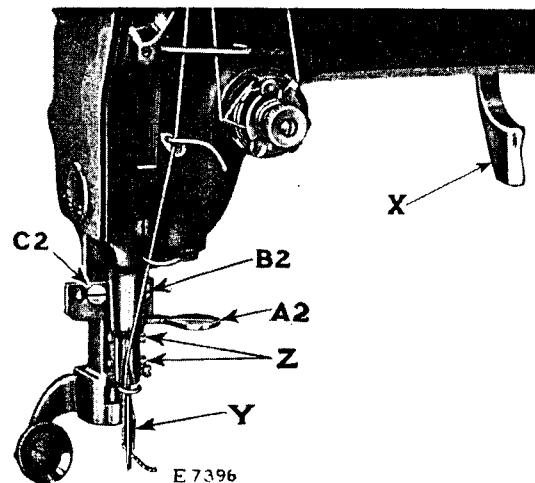

Fig. 22. Adjustments on the Trimmer of
The knife (Y, Fig. 22) should be set so that its cutting edge presses against and just passes below the cutting edge of the throat plate cutting bar to ensure making a shear cut. Care should be taken to keep the knife sharp.
The sidewise adjustment of the knife is made by loosening the two screws (B2 and C2, Fig. 22) and moving the knife holder to the right or left, as may be required, after which the two screws (B2 and C2) should be securely tightened.
To adjust the knife to the correct height, loosen the two screws (Z, Fig. 22) and move the knife up or down on the knife holder, after which securely tighten the two screws (Z).